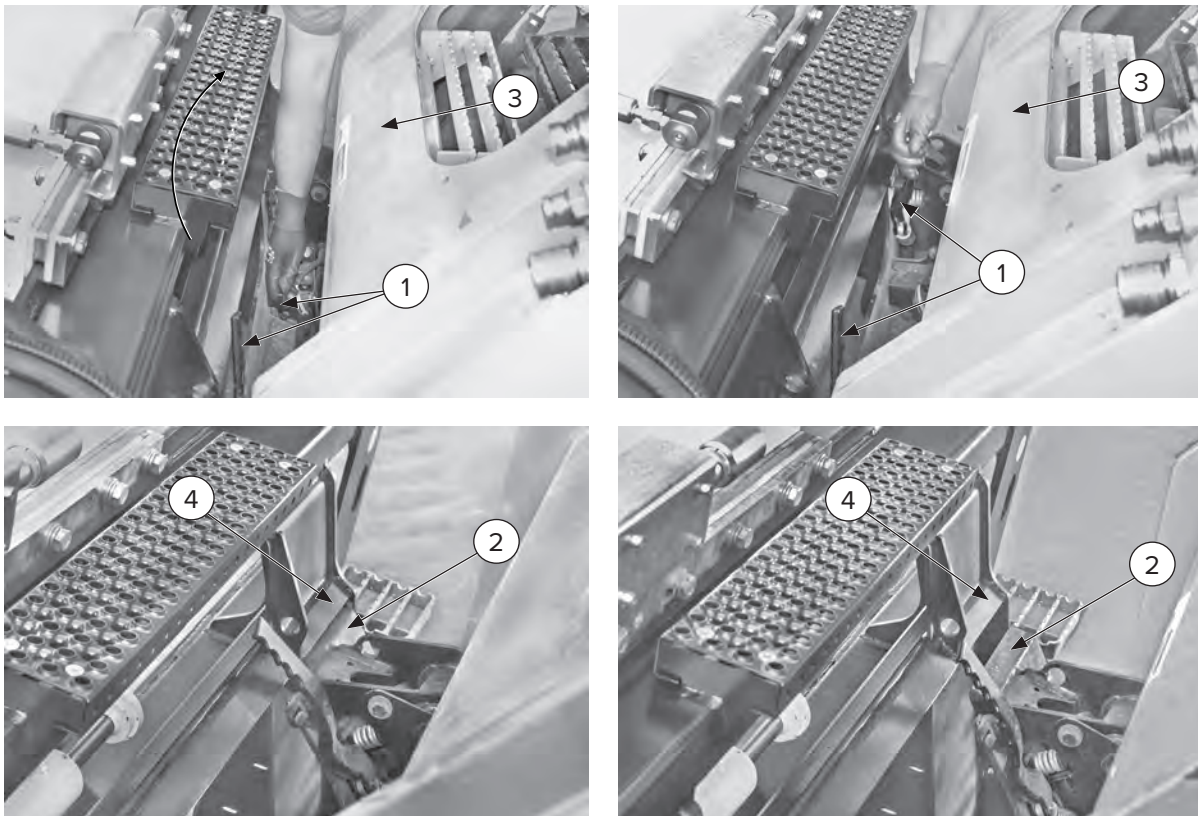

Figure 6
4. Pull the two (2) levers [Figure 6, Item 1] towards you to release the quick coupling locking pins.